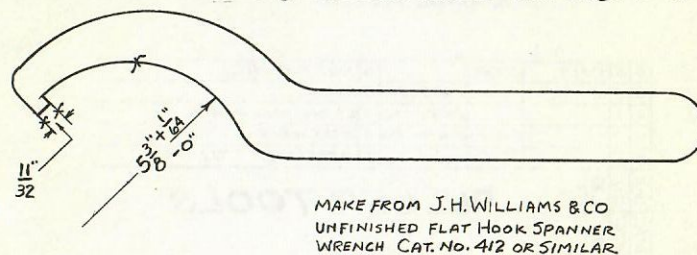

Fig. 2-9
- Using a spanner wrench similar to Cat. 6727127, remove bearing nut from shaft. See Fig. 2-9.